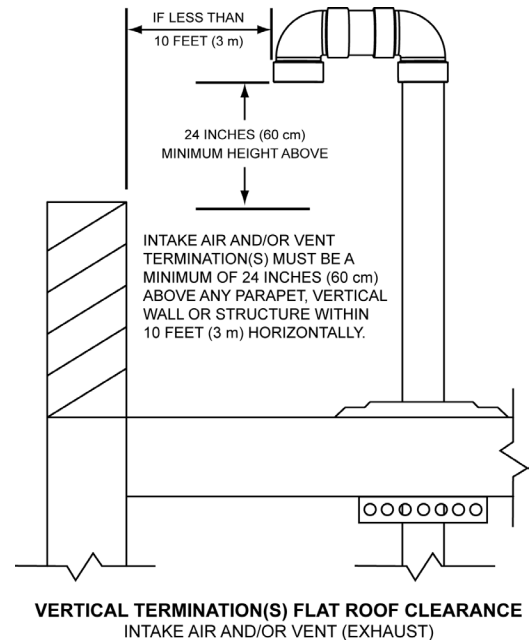

FIGURE 35. VERTICAL TERMINATION - FLAT ROOF CLEARANCES
6. If installing both intake air and vent piping in a Direct Vent configuration vertically through the roof; ensure that all exterior vertical clearance requirements shown in Figure 35 are being maintained. These clearances and those cited by local and national codes must be maintained.
NOTE: On flat roof installations the intake air and the vent terminations must be a minimum of 24 inches (60 cm) above any parapet, vertical wall or structure within 10 feet (3 m) horizontally. See Figure 35.